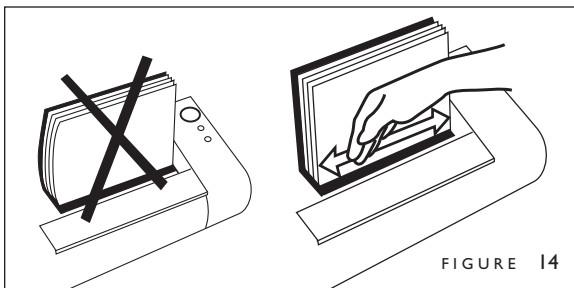

FIGURE 14
5. Push the pages backward to ensure proper binding (figure 14). Check that the document edge aligns with the edge of the Halfback cover.